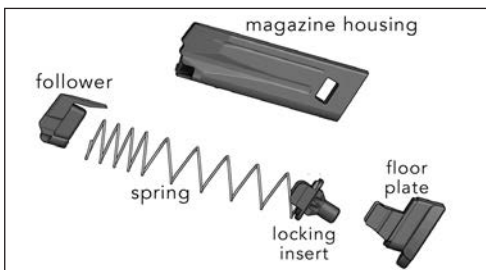

Figure 32
5. Remove the locking insert, magazine spring and magazine follower from the magazine housing. Figure 32 shows all the magazine components for 10 round magazines.